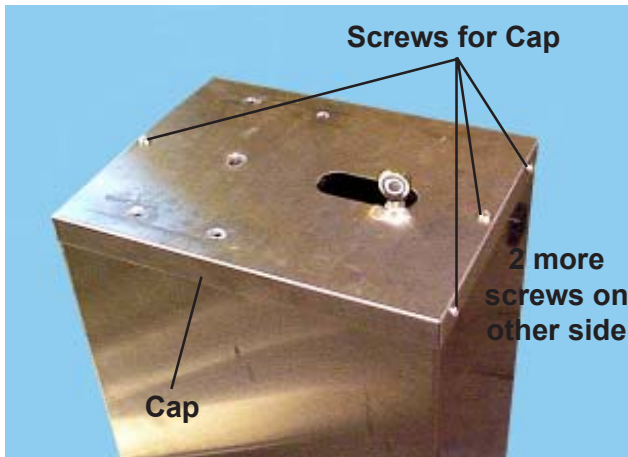

Figure 30. Removing the Cap
8. With a Phillips screwdriver, remove the six screws that hold the cap to the outside cover (Figure 30).
15. Place the cap in position on the top plate (Figure 30).